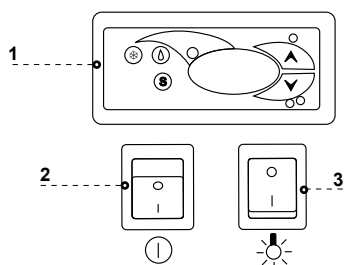

Fig.8 Control panel
- Turn on the main switch Fig.8/2 (p.16), which activates the thermostat, and then aggregate of the device
- Set the temperature on thermostat control panel Fig.8/1 (p.16) (thermostat service details on p.21 or 22)
- Turn on the lighting switch Fig.8/3 (p.16)